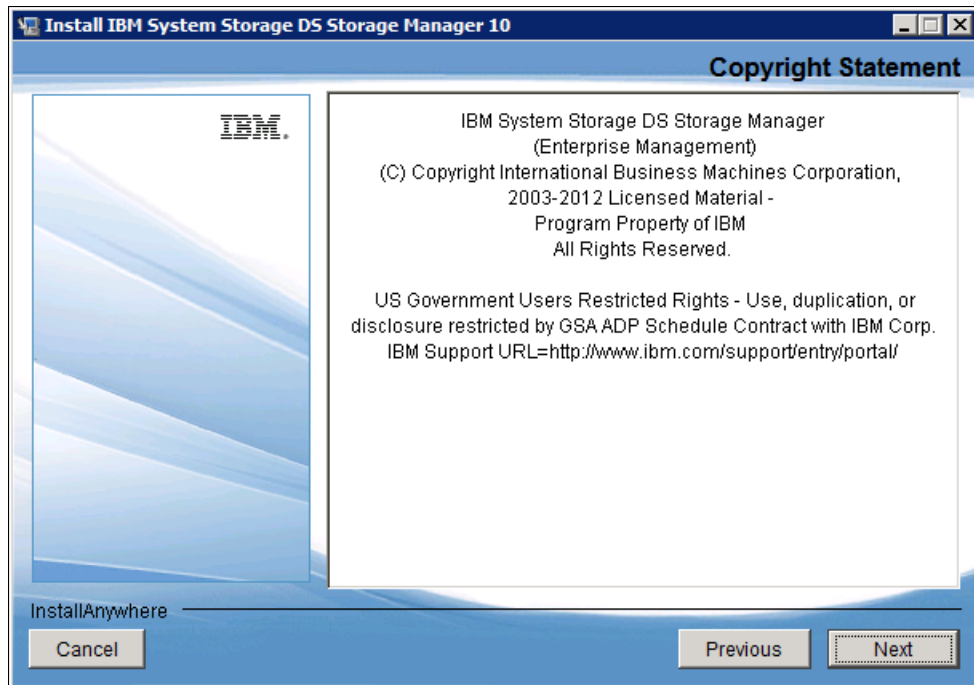

Figure 4-4 IBM DS Storage Manager Copyright Statement
4. Read the copyright statement and click **Next**, as shown in Figure 4-4.